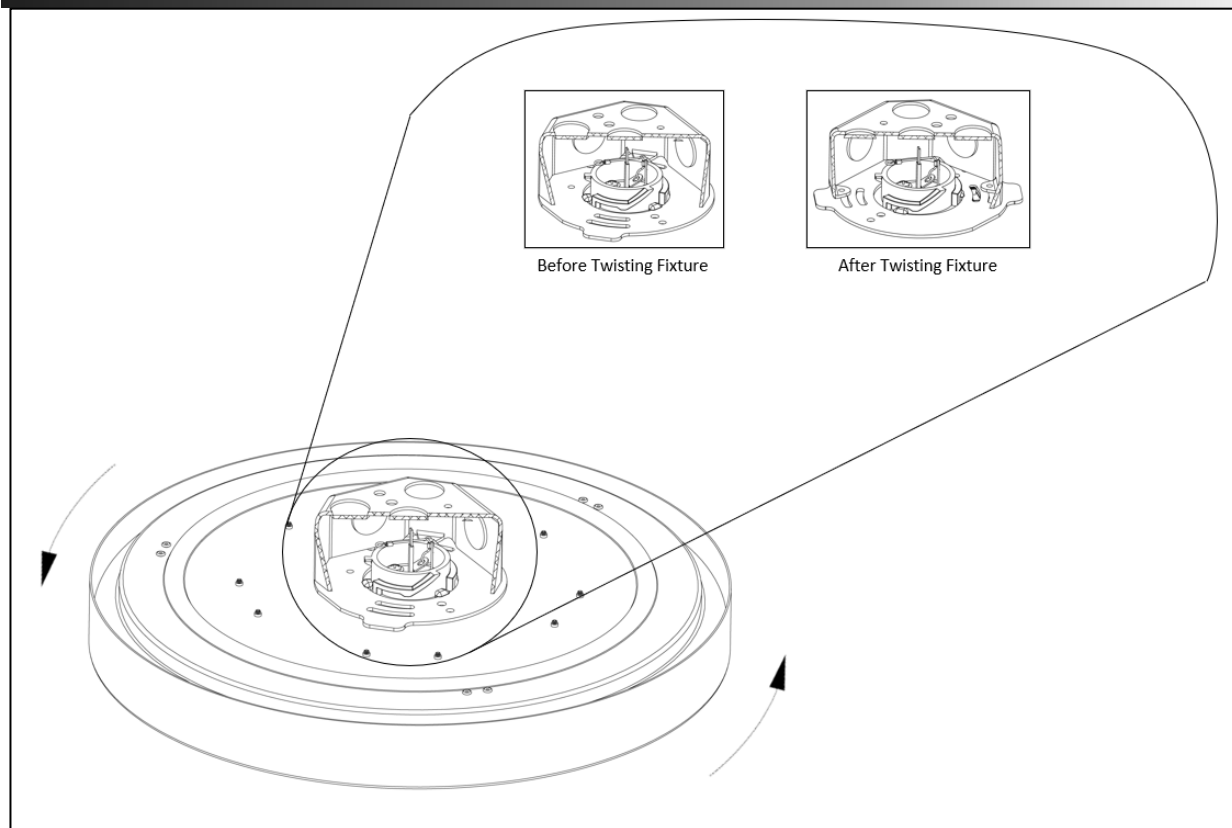

Figure 8
9. Secure the Fixture Assembly to the Mounting Bracket by twisting the fixture **CLOCKWISE** while gently pushing it upward into the junction box, shown in *Figure 8*. You should feel a slight "bump" to confirm that the fixture is locked into place. The fixture must be rotated clockwise 90 degrees from Arrow alignment to fully installation. If Junction Box protrudes from the ceiling, there may be gap between fixture and ceiling.